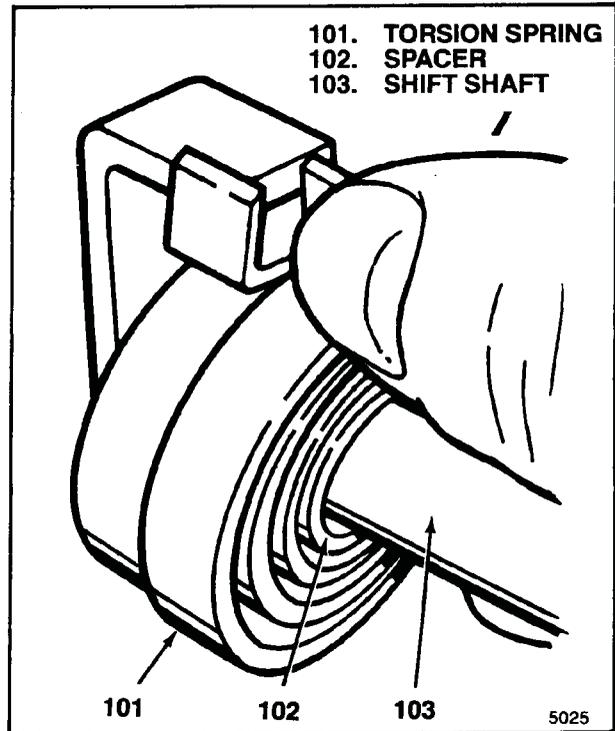

Figure 5-5. Installing Second Spring End
- c. Twist second spring (101) end to right of drive tang on shift shaft (103) (see figure 5-5).